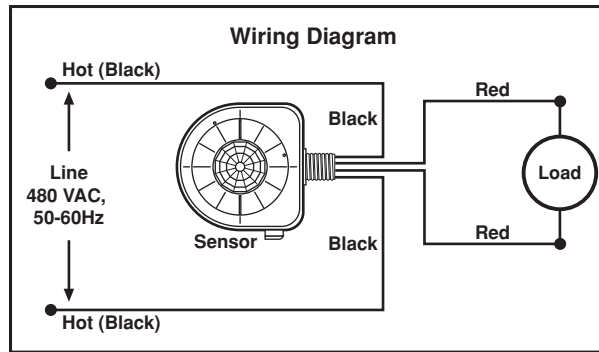

Figure 2A
ADAPTER NOTE: For deep bodied luminaires or to clear other obstructions use Leviton's OSFOA-00W Adapter (**refer to Figure 2A**). The Adapter is designed to provide multiple mounting positions to accommodate different mounting heights for optimum sensor positioning (**refer to Figure 2B**). Provided is a keyed, threaded snap-in nipple that holds the Adapter in place while tightening the provided lock-nut. If the Adapter is needed, go to **ADAPTER INSTALLATION** section. The OSFLO is a single height position adapter with a quick install snap in fitting without a lock nut (**refer to Figure 2B**).
3. Thread the provided lock nut part way on the keyed threaded nipple and insert through the keyed hole from the inside of the Adapter half body and snap into the half inch hole of the luminaire or electrical box and tighten (**refer to Figure 2A**).
4. Punch out the non-keyed hole on the other Adapter body half and insert the wires and threaded nipple of the Sensor into the hole. Thread the provided lock nut on the nipple and tighten positioning sensor towards the area to be monitored (**refer to Figure 2A**).